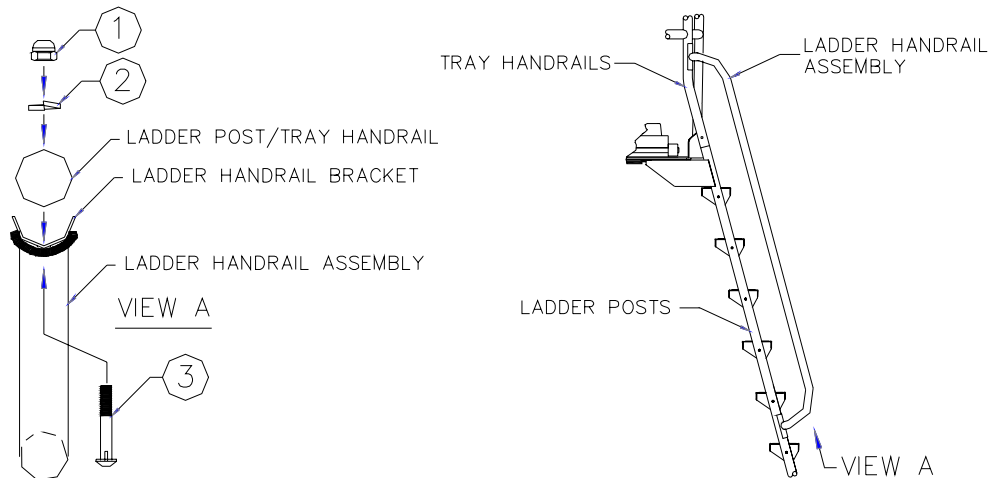

FIG. 12
- ① 3/8"-16UNC X 2-1/2" GUSSET HEAD BOLT, S/S
- ② 3/8"-16UNC X 2-1/4" GUSSET HEAD BOLT, S/S
- ③ 3/8" X 7/8" NYLON PROTECTIVE WASHER
- ④ 3/8" X 7/8" FLAT WASHER, S/S
- ⑤ 3/8" INTERNAL TOOTH LOCK WASHER, S/S
- ⑥ 3/8"-16UNC ACORN NUT, S/S
- ⑦ 3/8"-16UNC HEX NUT, S/S
9. (3 Meter Tower Only) Snap Ladder Handrail Assembly onto Ladder Posts and Tray Handrails as shown in Fig. 12. Drill 7/16" diameter holes through existing holes in Ladder Handrail Brackets through the Ladder Posts and Tray Handrails. Grind down any sharp edges or burrs. Assemble with hardware and tighten between 15 and 20 ft. lbs. Do not over tighten.